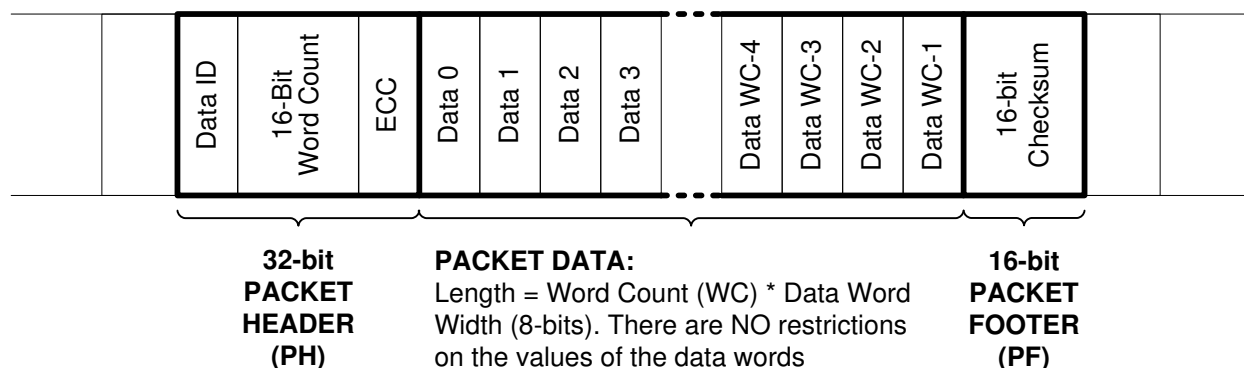

图 7-10. CSI-2 Long Packet Structure
A long packet consists of three elements: a 32-bit packet header (PH), an application-specific data payload with a variable number of 8-bit data words, and a 16-bit packet footer (PF). The packet header is further composed of three elements: an 8-bit data identifier, a 16-bit word count field, and an 8-bit ECC. The packet footer has one element, a 16-bit checksum. 图 7-10 shows the structure of a long packet.